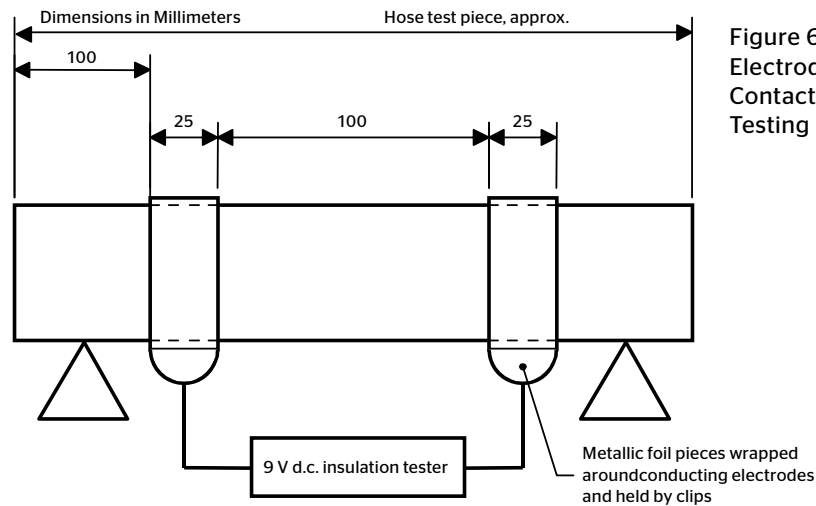

Figure 6-1
4.2 Electrodes and Contacts – When the test procedure calls for contact with the hose cover, electrodes should be formed around the outer circumference of the hose as bands 25 mm +2 mm, 0 mm (1"±1/16", 0") wide by applying silver lacquer/conductive liquid and metallic copper foil tape (i.e., 3M Scotch brand) as shown in Figure 6-1. When a conductive silver lacquer (i.e., Colloidal Silver Liquid is available from Ted Pella, Inc. catalog #16031) is used, the surface resistance between any two points on a sample of the dried film should not exceed 100 Ω . When a conductive liquid is used, the electrode contact area should be completely wetted and should remain so until the end of the test.
Apply the electrodes as specified to the outer circumference of the hose at each hose end (see Figure 6-1).
Ensure that contact is maintained with the electrodes around the circumference and that the contact pieces are sufficiently long enough for the two free ends to be held securely by a tensioning clip (see Figure 6-1) such that the fit of the electrodes is as tight as possible.